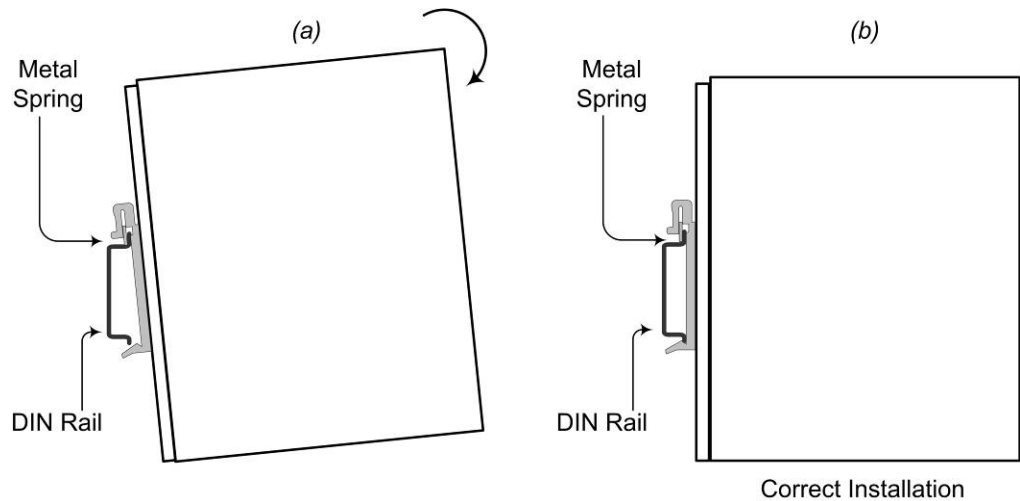

Figure 5: Industrial Media Converter Mounting to DIN Rail
DIN rail mounting To mount the Media Converter to the DIN rail, see Figure 5 and do the following:
1.	Align and then position DIN-Rail-clip spring to the top of the DIN rail as shown in Figure 5, step (a).
2.	Press DOWN on the Media Converter and then IN to snap it into place on the DIN Rail. See Figure 5, step (b).